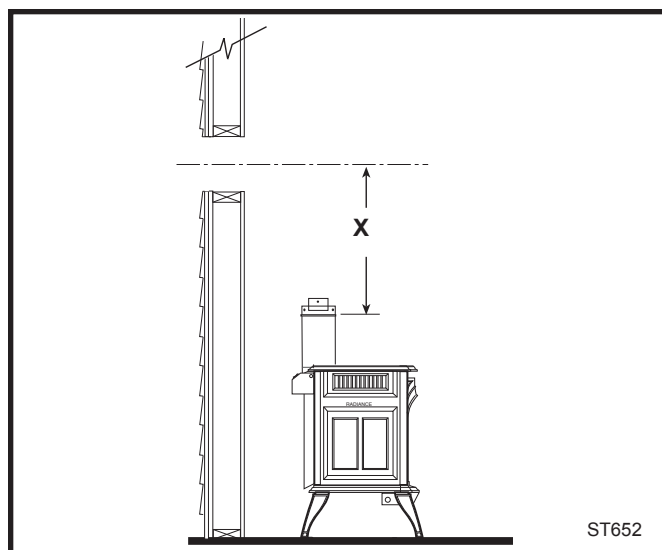

Fig. 26 Determine the vertical pipe length.
- 4. For CFM Vent Pipe only:** If necessary, measure to determine the vertical length (X) of pipe required from the adapter pipe to the wall cutout centerline, including a 2" overlap at the joint. (Fig. 26) use a hacksaw or tin snips to trim the pipe as needed.